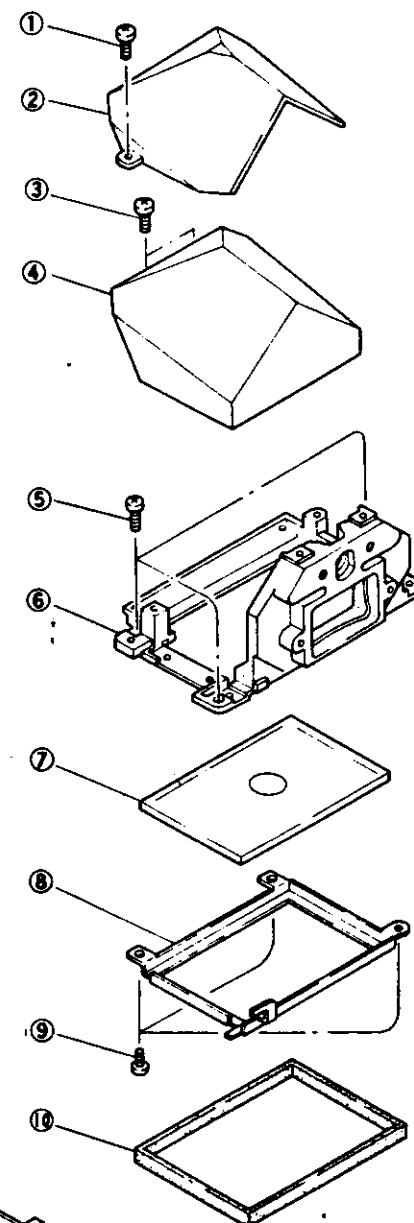

Fig. 11
- 10) Take off two SCREWS (No. 1) shown in Fig. 11.
7. Fresnel lens (see Fig. 11)